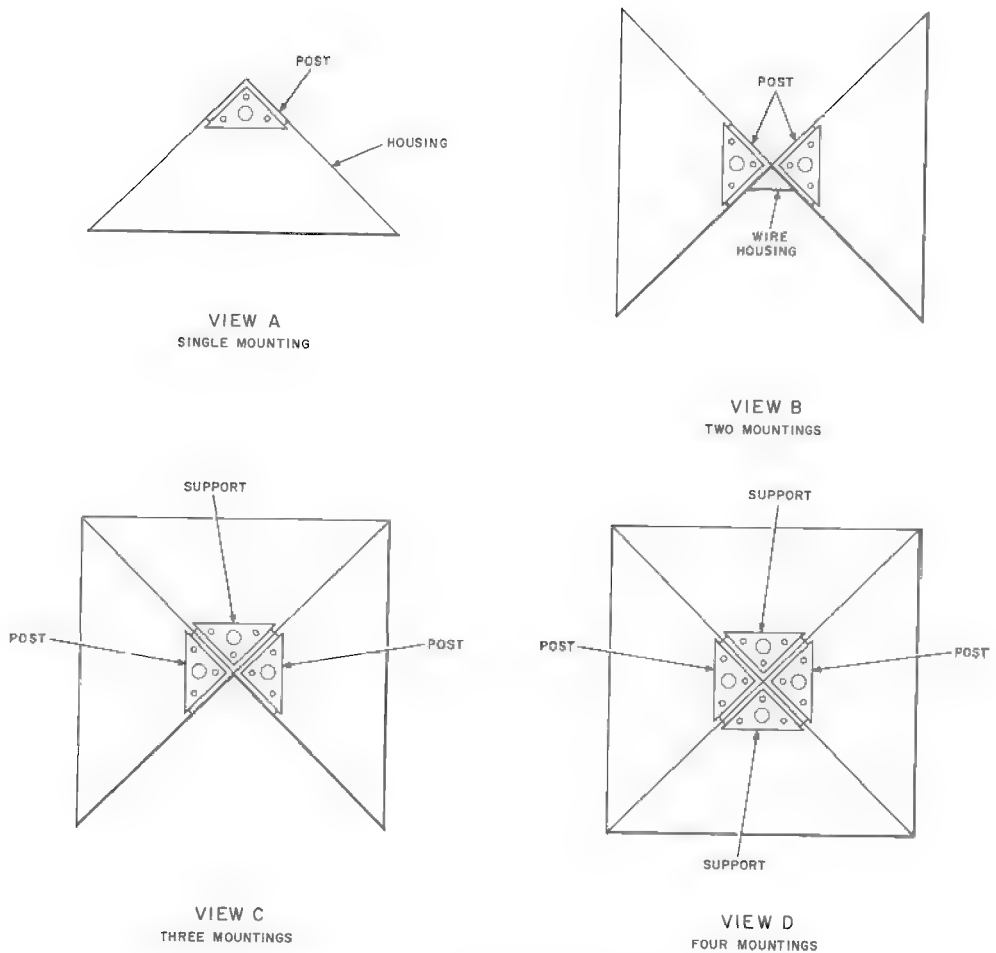

Fig. 6—Various Arrangements for Post Mountings
2.03 Post mountings (Fig. 1 through 3) may be installed singly or in multiple combinations as shown in Fig. 6